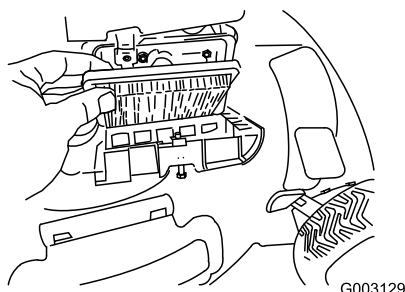

Figure 39
4. Install the cover (Figure 39).